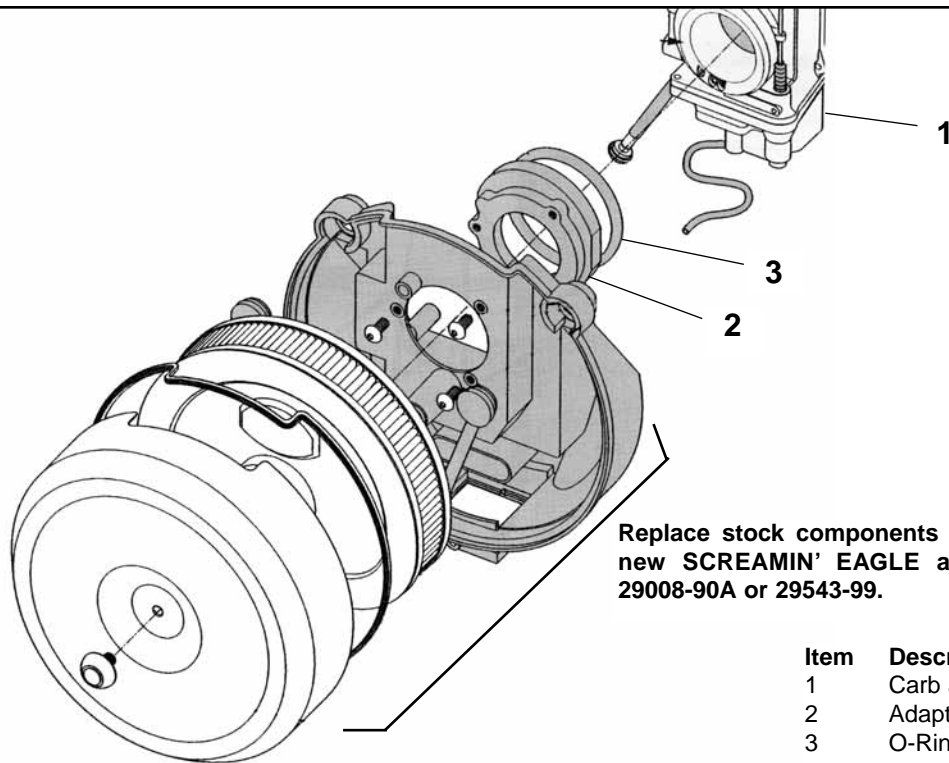

Figure 5. Carb And Air Cleaner Assembly - 1340 Evolution
1. See Figure 5 on page 4. Insert the large diameter O-ring into the adapter. Attach the adapter to the backplate with the screws from SCREAMIN' EAGLE air cleaner kit. Apply 1 or 2 drops of Loctite 243 (blue) on each of the screws.
3. See Figure 5 on page 4 for Evolution. Remove the air cleaner and backplate.